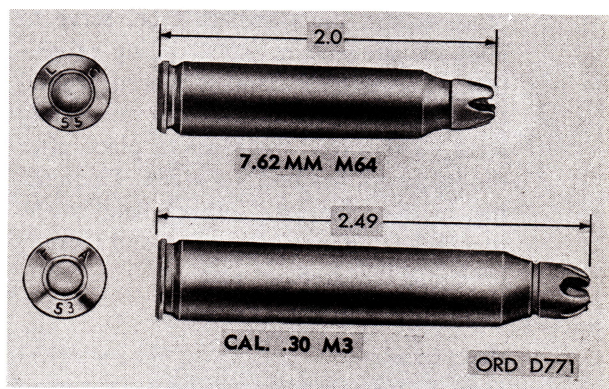

Figure 3-9. Rifle grenade cartridges.
a. *Uses.* Rifle grenade cartridges (fig. 3-9) are specially designed cartridges used for projecting rifle grenades from rifles equipped with grenade launchers. When the grenade cartridge is fired, it generates a large volume of high-pressure gas which propels the grenade from the launcher. Rifle grenade cartridges may be identified by a 5-point, rose-petal crimp on the wad end. This crimp is a ready means of distinguishing rifle grenade cartridges from blank cartridges, which must never be used in place of rifle grenade cartridges.
- (1) Only grenade cartridges prescribed in paragraph 3-15 will be used in firing rifle grenades.
- (2) No bulleted cartridge will ever be used for firing rifle grenades.
- (3) Never attempt to fire a grenade from a carbine. (Carbine rifle grenade cartridges and launchers are no longer authorized for use.)
- (4) Never fire a rifle grenade cartridge from a rifle *not* equipped with a grenade launcher.
- (5) If a grenade cartridge fails to fire, replace the cartridge with another one and attempt to fire again. If cartridge still fails to fire, inspect the rifle for broken firing pin.
a. *General.* Grenade cartridges (fig. 3-9) are non-bulleted cartridges containing a special charge, which produces the large volume of gas needed to produce the pressure required to propel a rifle grenade. Only two grenade cartridges are authorized for use by the U.S. Army in projecting rifle grenades: the caliber .30 rifle grenade cartridge M3 used with rifle M1, and the 7.62-mm rifle grenade cartridge used with rifle M14. Grenade cartridges are issued packed with rifle grenades and grenade adapters. They are also available for issue packed